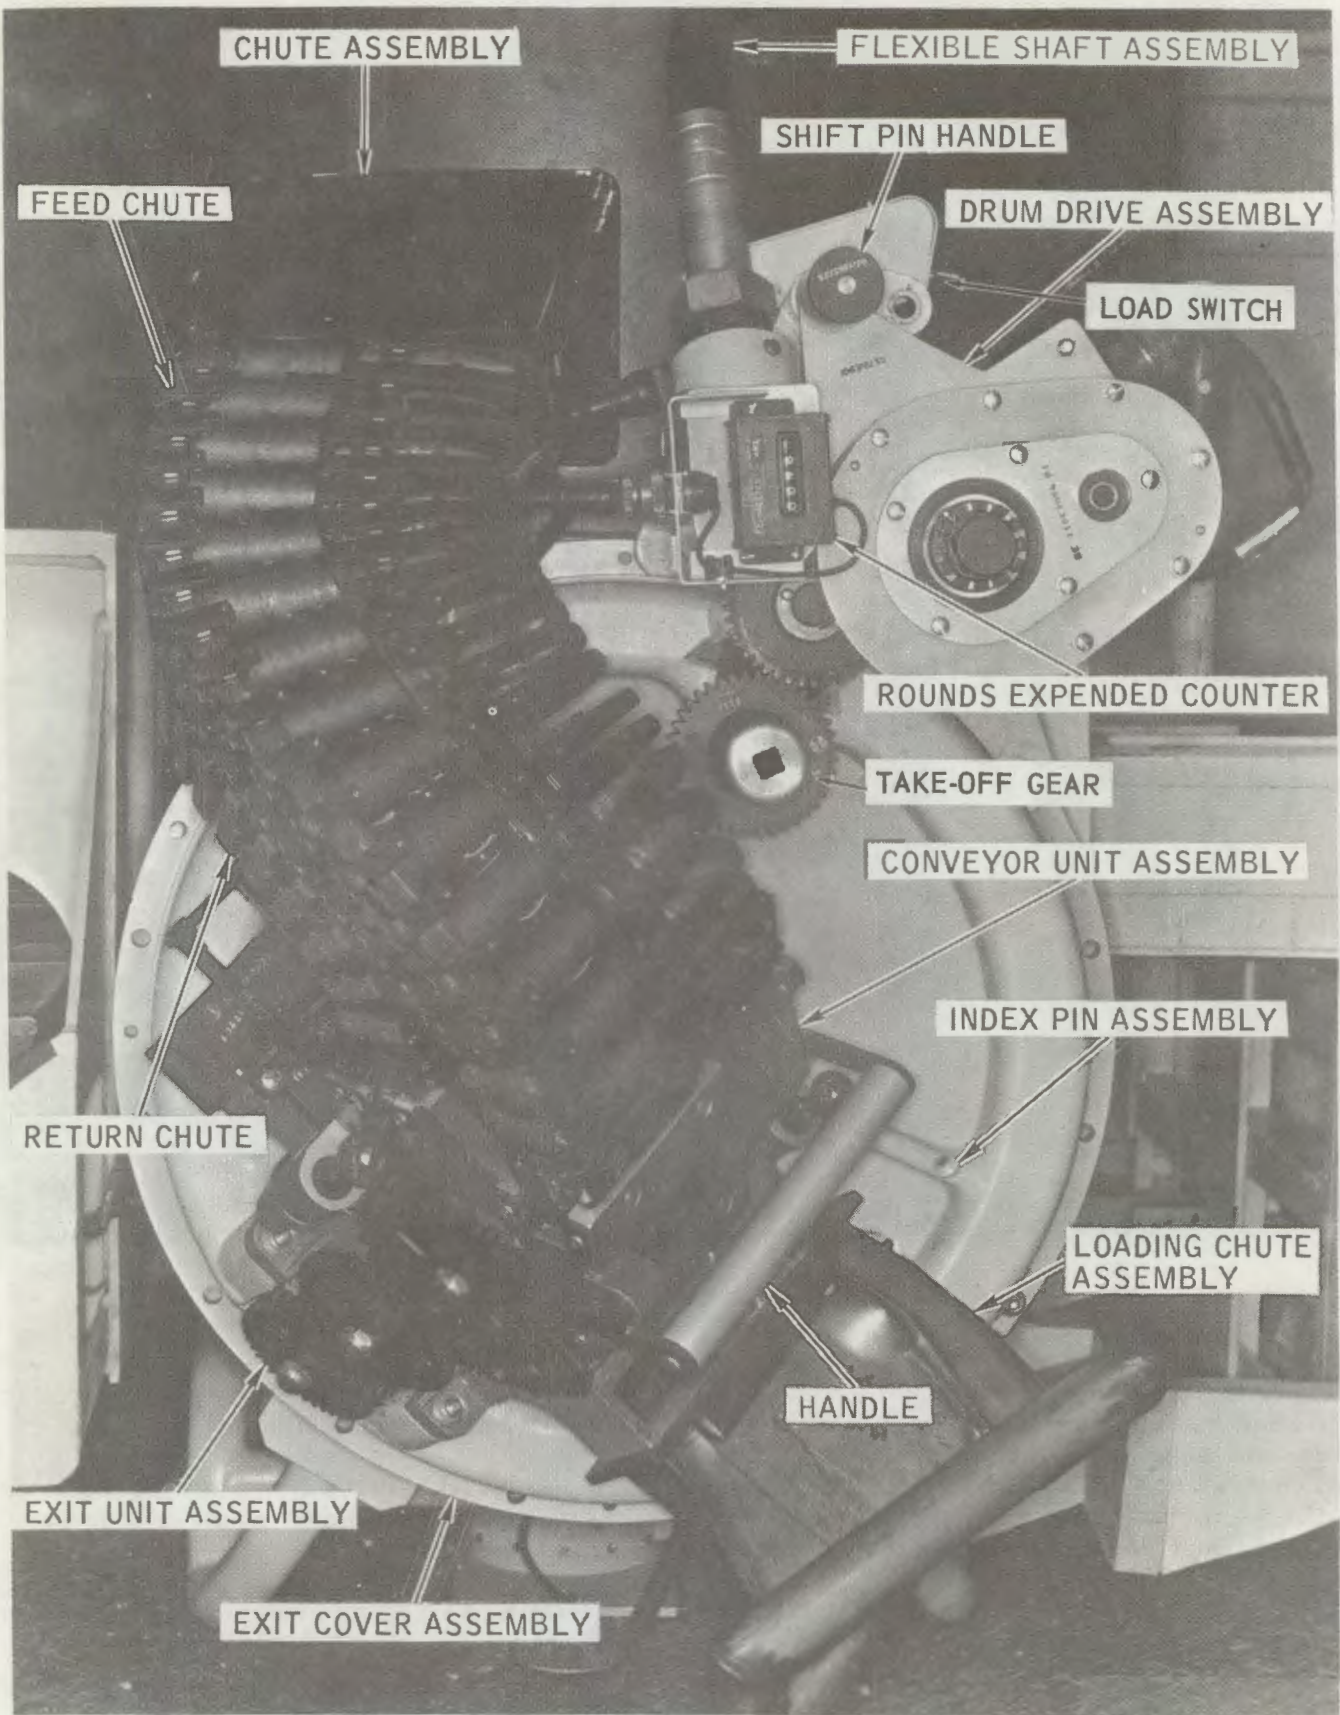

Figure 3-14. Drum drive assembly.
d. Drum Drive Assembly (fig. 3-14).
e. Exit Cover Assembly (fig. 3-14).
(2) *Handle (fig. 3-14)*. Permits conveyor unit assembly to be moved into either loading or firing position.